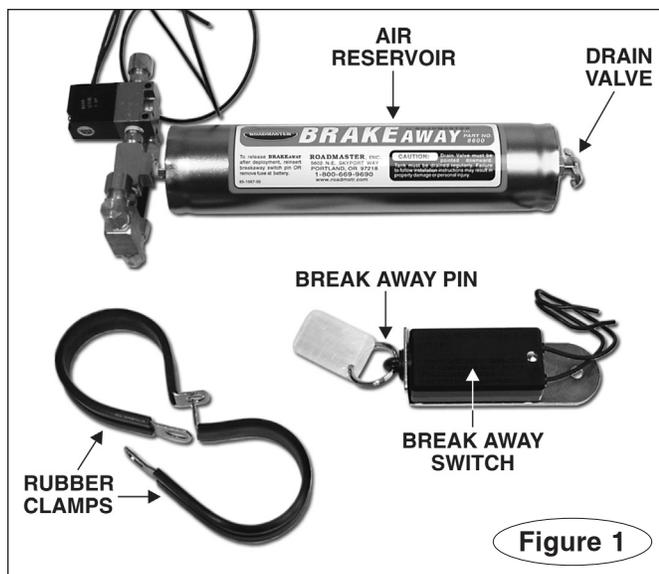

Figure 1
1. First, choose a location for the air reservoir (Figure 1). The air reservoir is mounted in the towed vehicle, most often in the engine compartment, but it may be attached anywhere an air line can be routed from the top of the air reservoir to the front of the vehicle, and where the drain valve (Figure 1), at the bottom of the reservoir, is easily accessible.
2. Once you have chosen a location for the air reservoir, fold the two rubber clamps (Figure 1) over the cylinder. Press the ends of each clamp together, until the pre-drilled holes align.
1. Mount the break away switch (Figure 1) at the front of the vehicle, on the driver's side. Choose an area you can easily reach, with a surface of sufficient strength to hold the switch firmly in place, so that the break away pin (Figure 1) will pull freely from the switch. Mount the switch in a horizontal position, with the break away pin facing toward the motorhome.